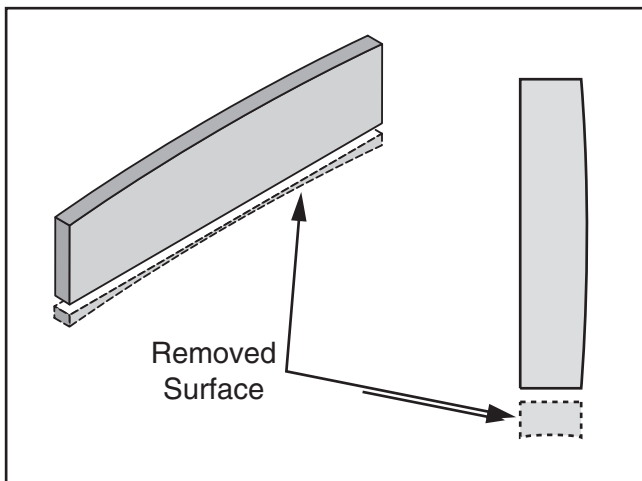

Figure 25. Illustration of edge jointing results.
5. If your workpiece is cupped (warped), place it so the cupped edge is face down (**Figure 25**) on the surface of the infeed table.